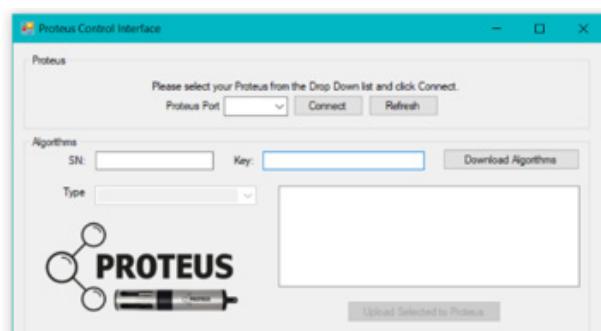

Figure 15: PCI before connection to probe.
4. Figure 15 will display; the Proteus Port will automatically detect which COM port the Proteus is plugged into – click 'connect' to make the connection.
A vertical clearance of 75mm (provided by the Sensor Guard) is required for optical sensors (fluorometers, turbidity and DO) as backscatter can cause spurious data. The sensor should always be installed with the Sensor Guard securely fastened and, whenever possible, with the multiprobe in the vertical position (Figure 15). In larger streams and rivers where highly variable flows are anticipated, the multiprobe should be adequately protected from floating debris. We advise installing the sensor in a perforated stilling tube (Figure 16), to both protect the sensor and reduce ambient light interference. To secure the multiprobe use large cable ties attached to at least two points on the multiprobe (avoid using clamps as this can damage the instrument). Avoid installation in locations where deposition of sand/silt is likely.